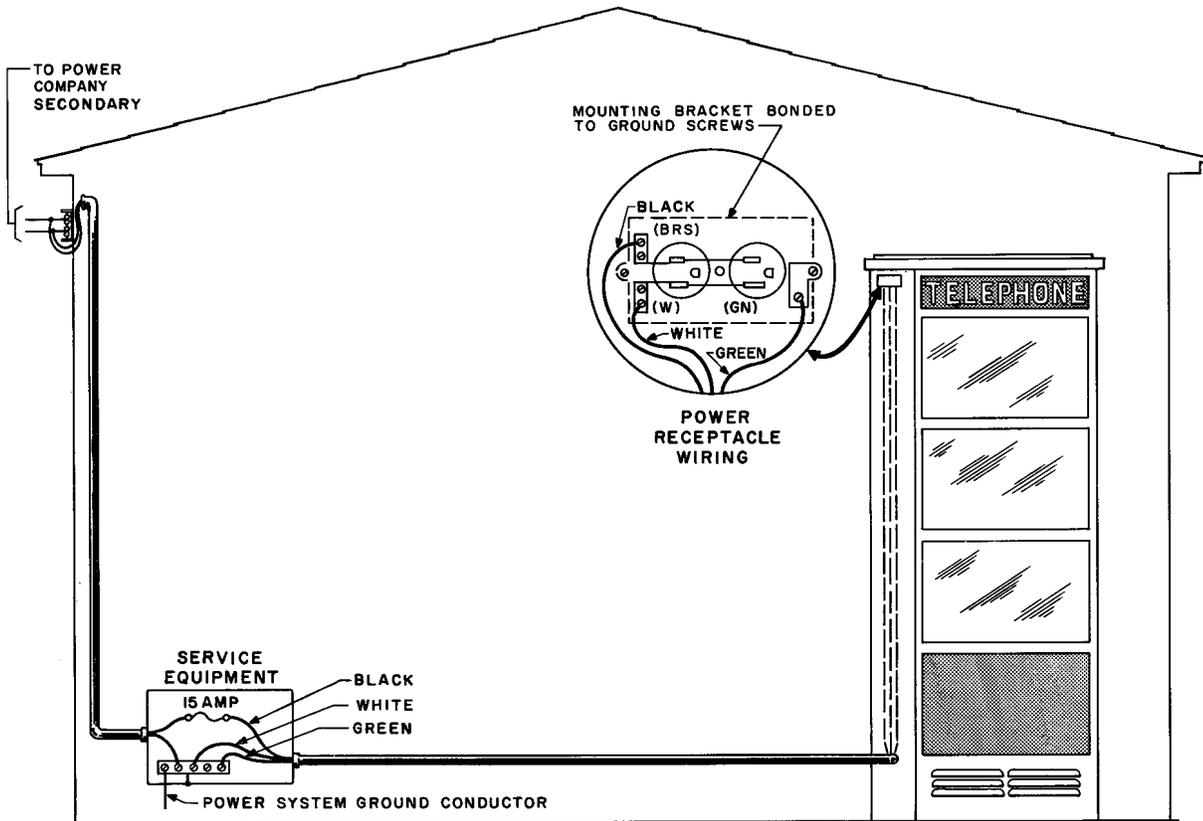

Fig. 6 — Booth Located Within Same Building as Branch Circuit
10.00 BRANCH CIRCUIT WITHIN A BUILDING (FIG. 6)